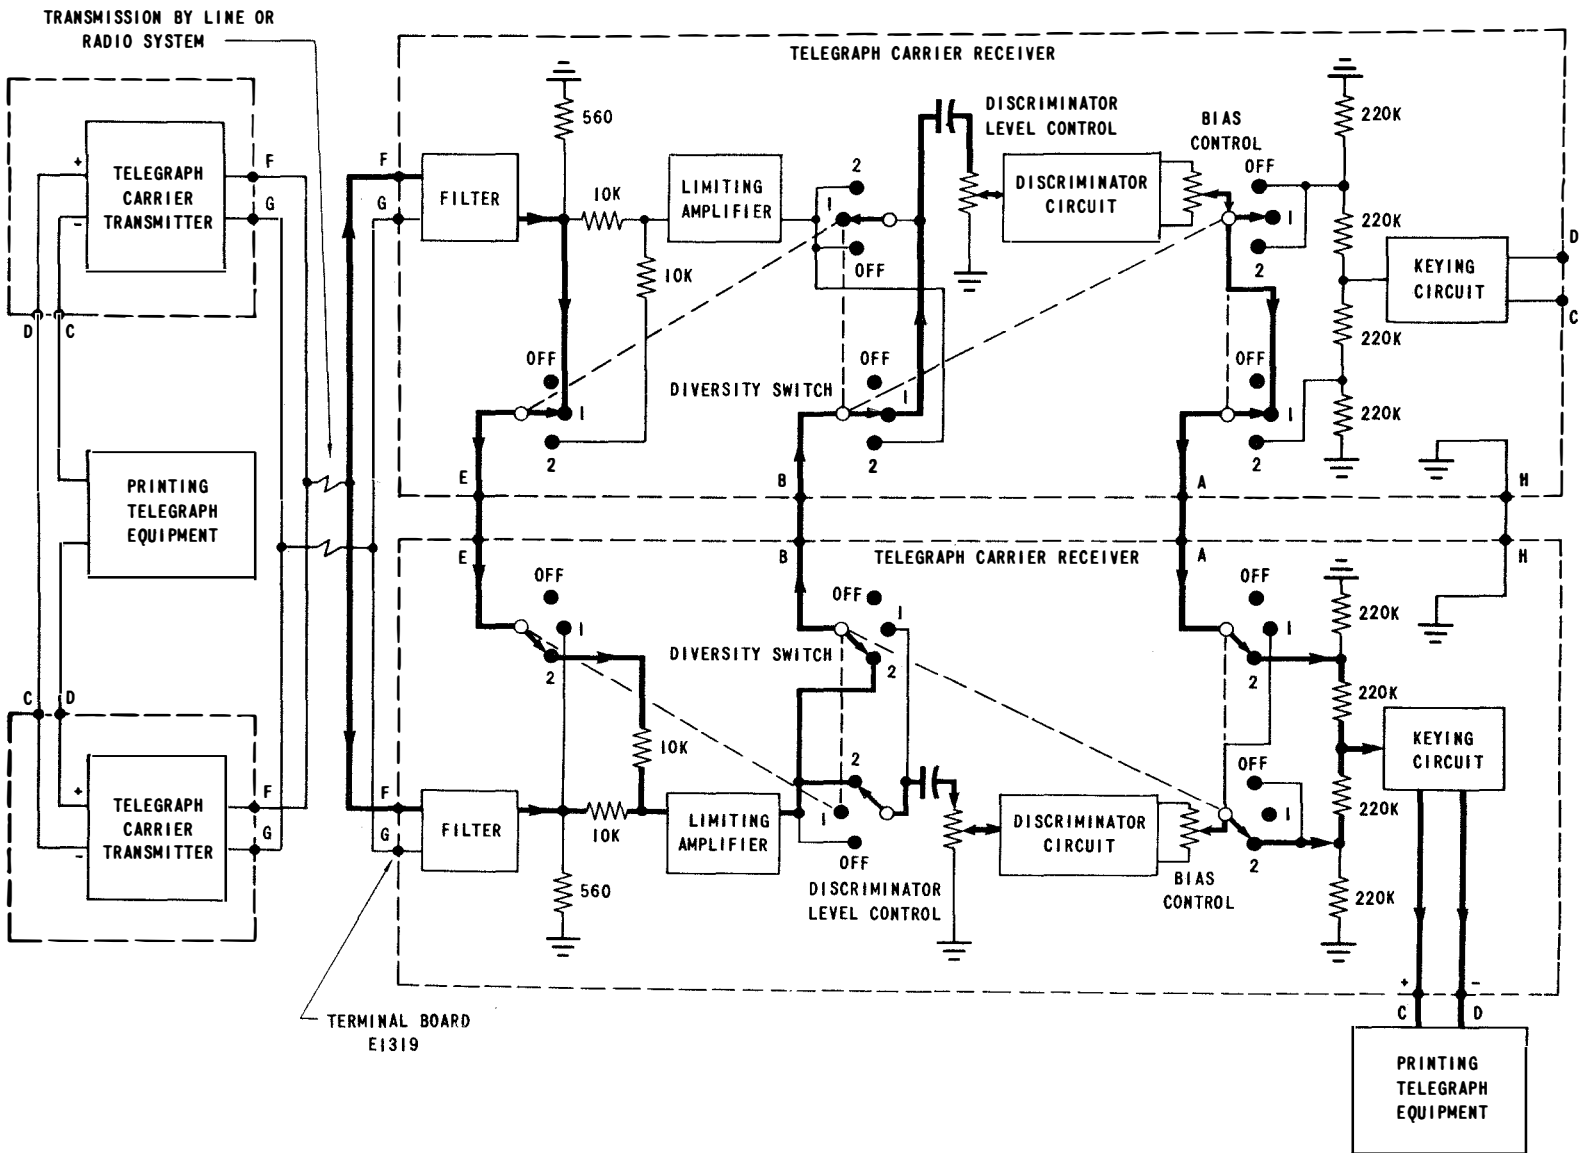

Figure 2-9. Block Diagram of Telegraph Carrier Receivers in Frequency Diversity
b. DIVERSITY. - The telegraph carrier receivers are designed to be used in frequency diversity on either line or radio transmission systems. The block diagrams of figure 2-9 show the arrangement of components when two receivers are placed in diversity. As shown by the diagram the two carrier signals, which are spaced apart in frequency but keyed with the same intelligence, are applied to the grid of a common limiting amplifier and the output of this amplifier is applied to the discriminator circuits of both channels. The DC output of the discriminator circuits are combined to control the common keying and loop
circuit. During a fade of radio signal the stronger carrier signal captures the limiting amplifier and controls the keying of the output loop circuit. When the input carrier signals are equal the limiting amplifier output contains both carrier signals which are rectified and combined at the input to the keying circuit. To obtain balanced operation between channels, the signal level of each channel without signal in the other channel must be the same at the input grid of the keying circuit. This is accomplished by adjusting the DISCRIMINATOR LEVEL CONTROL and measuring the input at the grid of the keying circuit. The Wiring Harness CX-4289/FCC-3A provides the electrical connections between chassis for diversity operation. As shown in figure 2-9, when the DIVERSITY switch S1306 is in the OFF position, the receiver is connected for single channel operation. For diversity operation the switch of one channel is placed in position 1 and the switch of the other is placed in position 2. Under these switching conditions the output to control the loop circuit is taken from the channel with the DIVERSITY switch in position 2. During diversity operation the output of the limiting amplifier contains the sum and difference frequencies between the two carriers and harmonics of the two carrier signals being combined. Some of these extraneous frequencies fall in the pass-bands of the discriminator circuits but do not cause interference. The Wiring Harness CX-4289/FCC-3A places the channels listed in table 2-1 in diversity.
to the combining network consisting of the 220,000 ohm resistors R1320, R1321, R1323, and R1324. This network is inactive except when two receivers are connected in diversity, in which case the telegraph signal from the second channel is applied to the junction of R1323 and R1324 and the combined output occurs across the 0.006 mf filter capacitor C1310. As shown in figure 2-9, the two channels in diversity have a common point at the input to the limiting amplifier, at the input to the discriminator circuits, and at the input to the DC amplifier and inverter circuits.